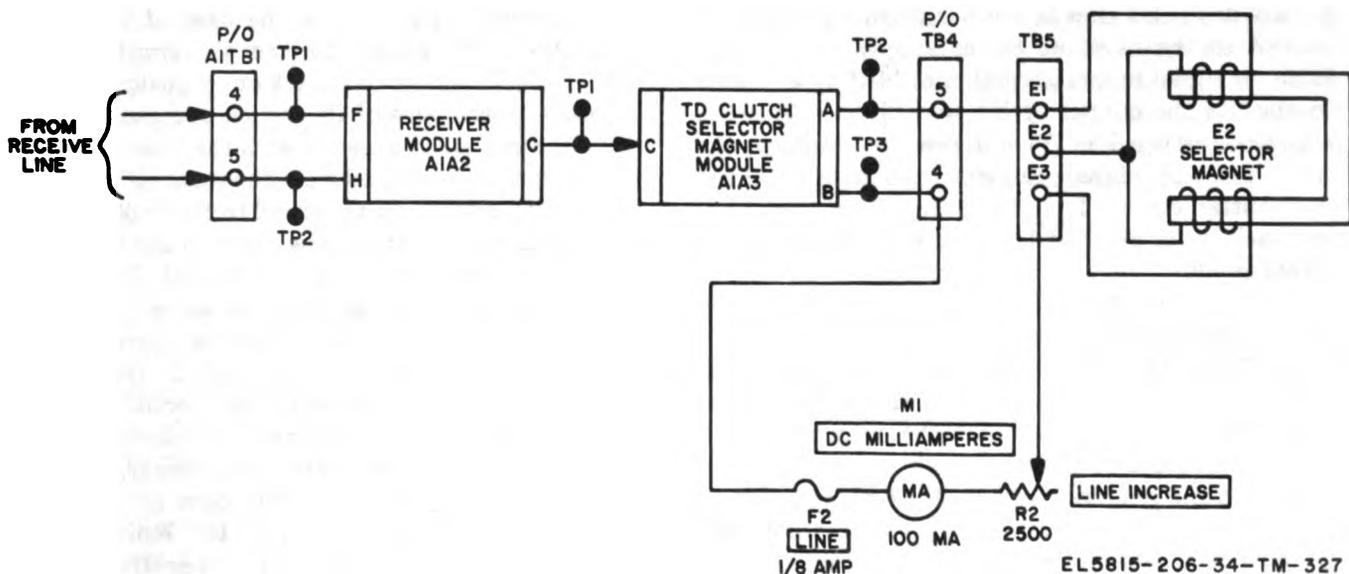

Figure 2-69. Page printer receive circuit, simplified schematic diagram, TT-698 (*)/TG.
b. Receive Circuit TT-698()/TG (fig. 2-69).* The receive circuit is used to accept polar mark and space impulses from external signal lines connected to terminals 4 and 5 of terminal board A1TB1. The coded impulses are applied to the receiver module, which amplifies the impulses. The amplified impulses are sent to the TD clutch selector magnet driver module which controls the selector magnet, which in turn governs the position of mechanical parts within the selector mechanism.